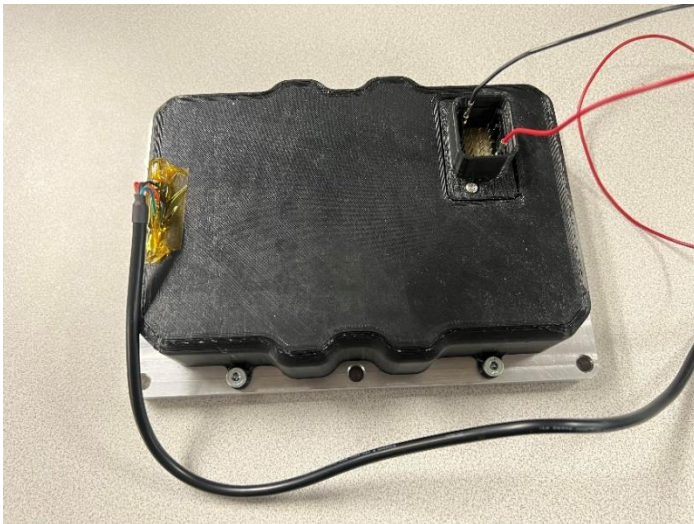

Figure 5: Thermal Pad with 3d fixture
5. Thermal Pad with 3d printed fixture (to replicate the GDM.) (Fig. 5)